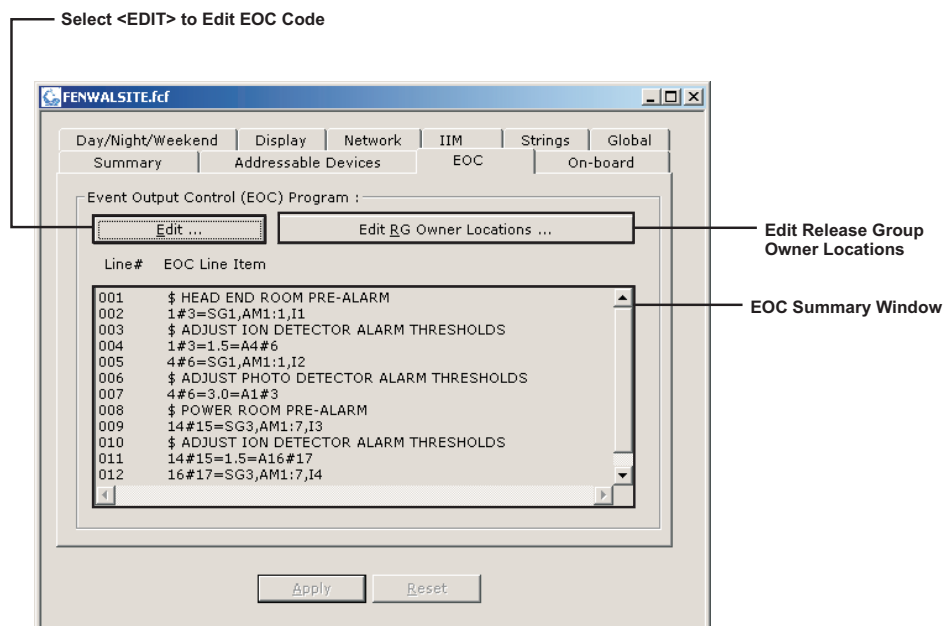
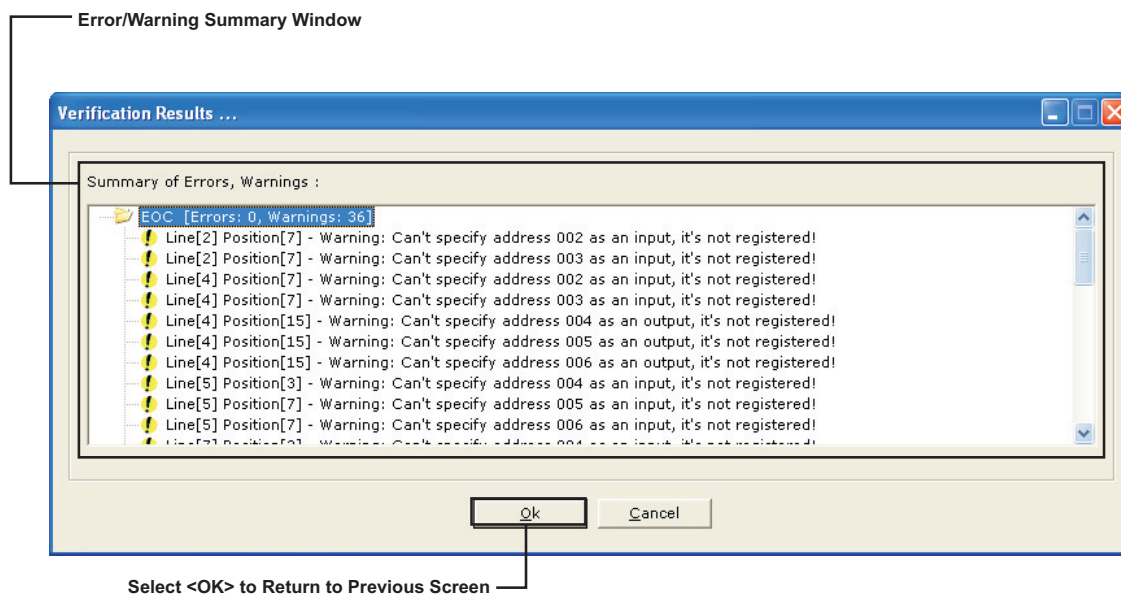

Figure 3-3. Saved EOC Code Screen
Figure 3-4. EOC Error and/or Warning Screen
2. Select **<OK>**. Figure 3-3 shows the saved EOC code. If the program detects an undefined SLC device or a syntax error, Figure 3-4 displays after exiting the text editor. Edit the EOC code as necessary to remove all errors and warnings.